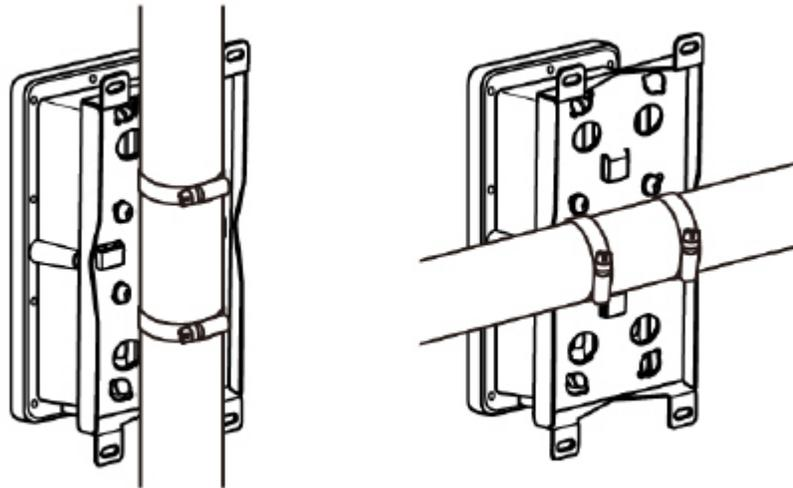

Figure 5-8. Power Module Pole Mount
2. Mount the Power Module assembly to the pole as shown in Figure 5-8 (horizontal and vertical mounting options are shown).